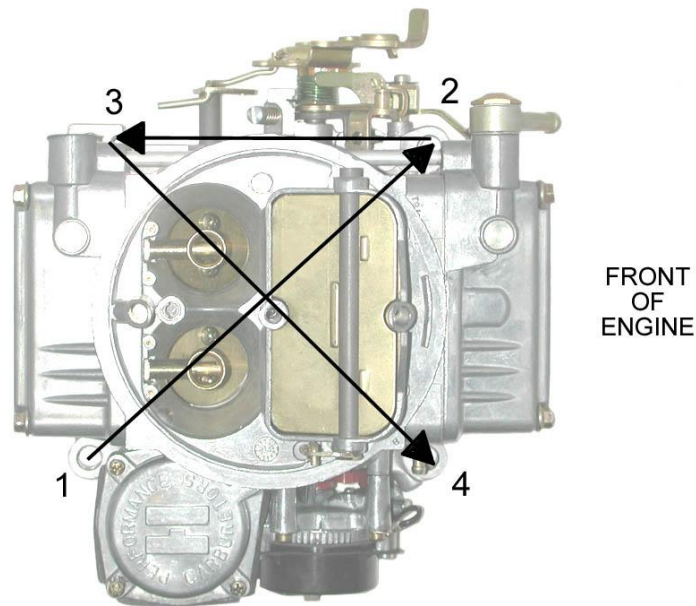

Figure 1—Carburetor torque sequence (all Holley® carburetors)
3. Place the carburetor on top of the flange gasket on the manifold. Install the hold down nuts and snug down progressively in a "crisscross" pattern (60-80 in./lbs.), as shown in Figure 1.